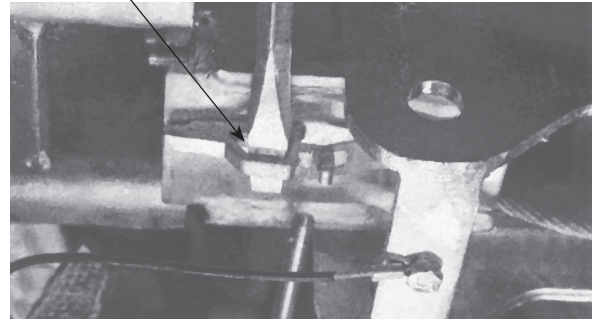

Figure S15: Emergency Break-Away System - Manual Release
8. If the break-away system is accidentally applied while unhitching, insert a flat-bladed screwdriver into the slot of the break-away catch hole under the actuator and pry down to release. See Figure S15.